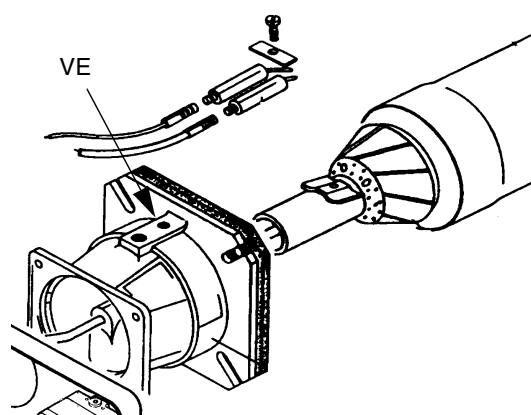

Fig. 18
- Remove, check and clean the combustion head (Fig. 18);
- To access the combustion head and the electrodes, loosen the screw VE (Fig. 18) on the blast tube and unthread it; provide a stable surface where lie the burner during maintenance operations.